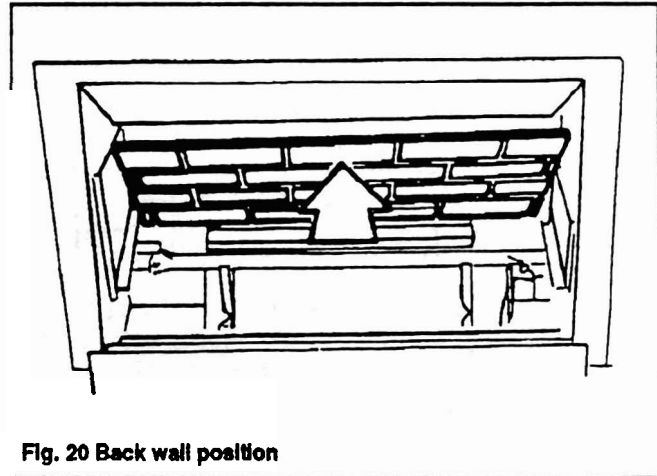

Fig. 20 Back wall position
15.1 Place the ceramic back wall in position centrally at the back of the firebox. It must rest on the metal ledge at the back of the firebox (see figure 20).